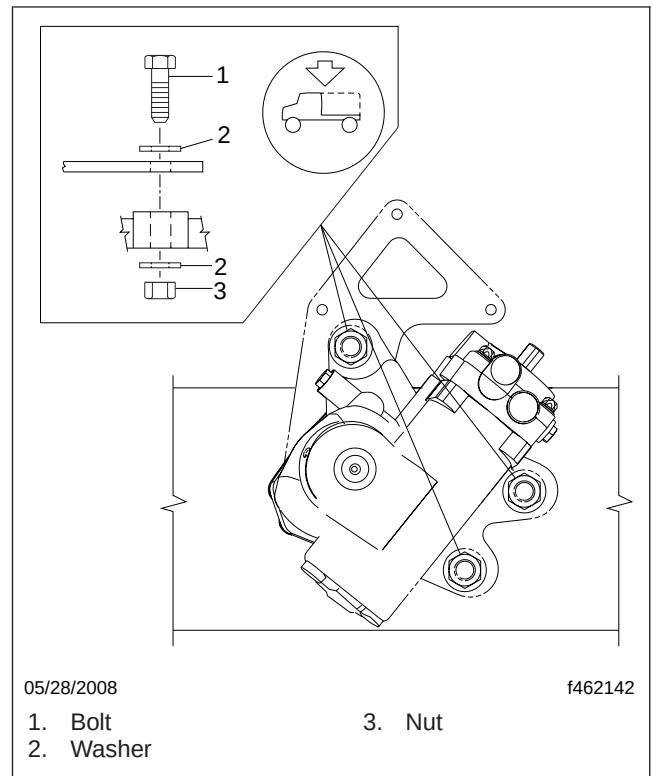

Fig. 1, Steering Gear Installation
1. Install the steering gear and fasteners as shown in **Fig. 1**. Tighten the fasteners 427 lbf·ft (579 N·m).